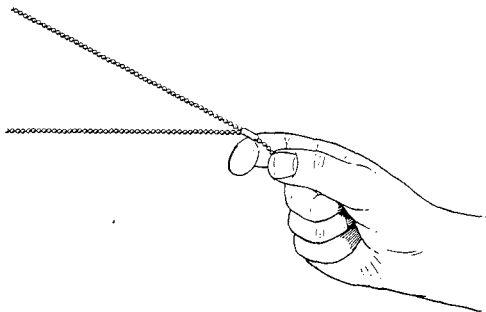
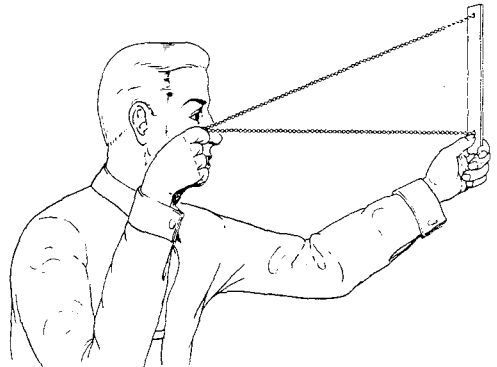

Fig. 7—Holding B Height Finder Chain
Fig. 8—Sighting With B Height Finder
3.04 Measure off 60 or 90 feet from the base of a pole. At this point, hold the connecting link end of the chain between the index finger and thumb, as shown in Fig. 7. Using the index finger place the connecting link against the cheekbone. Sight along the appropriate edge of the scale, lining up the zero line of the scale with the bottom of the pole (Fig. 8). Without moving the scale, sight along the scale where it intersects with the top of the pole or attachment being measured. This point on the scale indicates the height of the object being measured. *Be sure to use the proper scale for the measured baseline.*